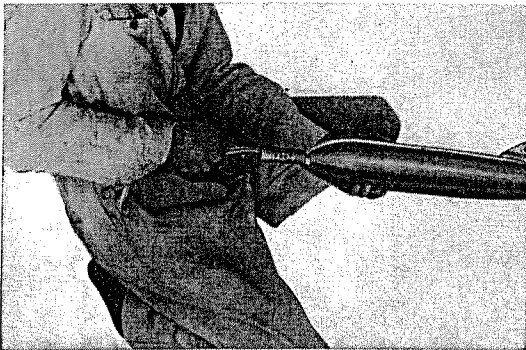

Fig. 4.52 Removing diffuser pipe
6. By loosening the 6x8 hex bolt, the diffuser pipe is removed from the muffler. (Refer to Fig. 4.52)